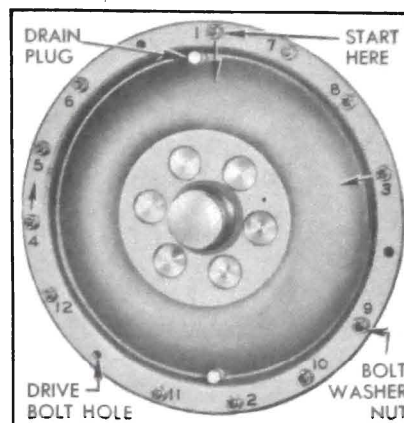

Figure 5-105—Bolt Tightening Sequence
21. Install bolts with plain washers and special nuts in all but the three driving bolt holes, insert the shank of a  $1\frac{1}{32}$ " drill through one bolt hole to align all holes, then tighten bolts to approximately 5 ft. lbs. torque in numerical sequence shown in figure 5-105. Finally tighten bolts in same sequence to 25-30 ft. lbs. torque.